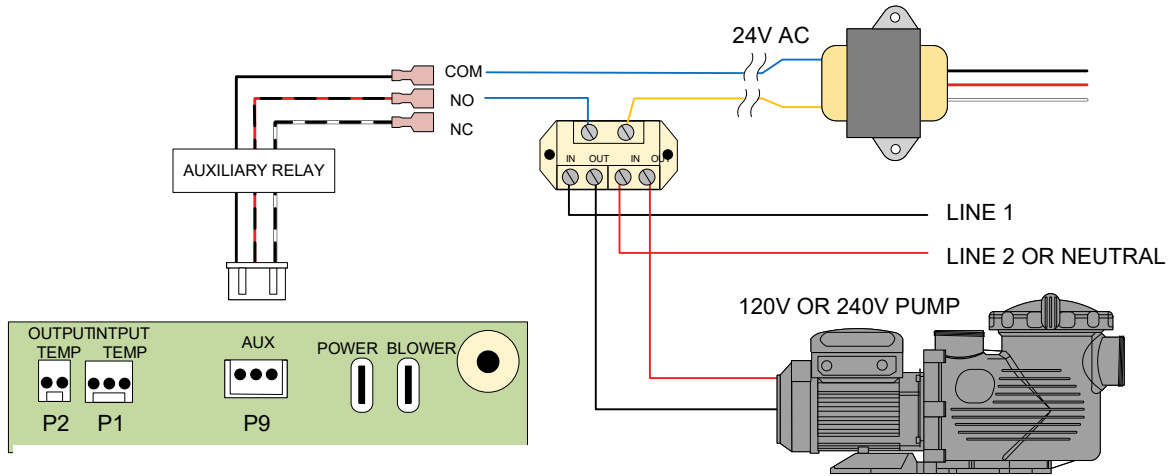

Figure 147. High Power Applications with Field-Supplied Relay
- **Load on P9 must not exceed 3 Amps. If the load is larger than 3 Amps, use P9 auxiliary output to drive a field-installed contactor. See Figure 147.**